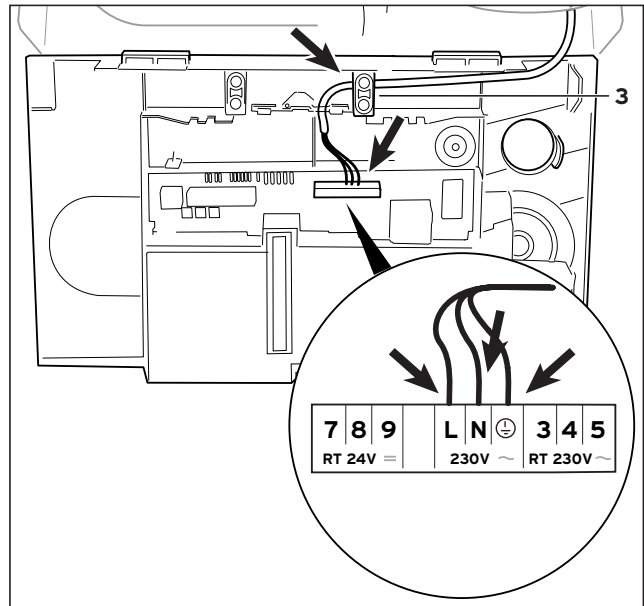

Fig. 5.9: Wiring system
- Unclip the terminal box cover (1) from the control panel (2).
- Feed the power supply cord in to the appliance as shown (fig 5.9).